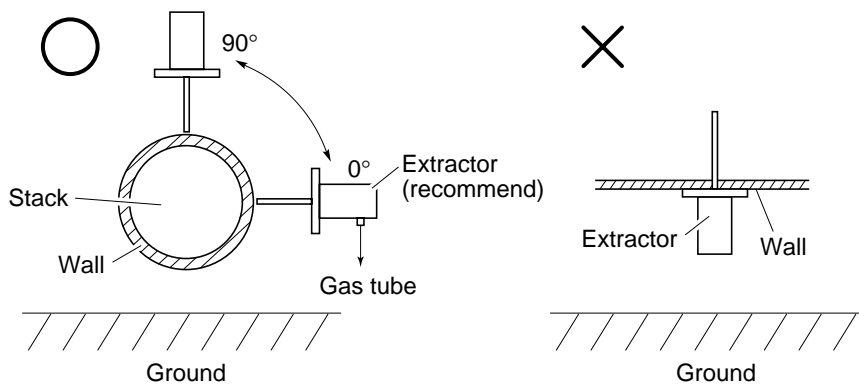

Fig. 1-5.
- (1) Sampling gas temperature is within the specified range (general use: 800°C in max, high temperature: 1300°C in max.).
- (2) Perform processing or installation of mating flanges or protective tubes in advance to conform with the insertion angle limitations of each extractor.
- Limits of insertion angle (See Fig. 1-5)